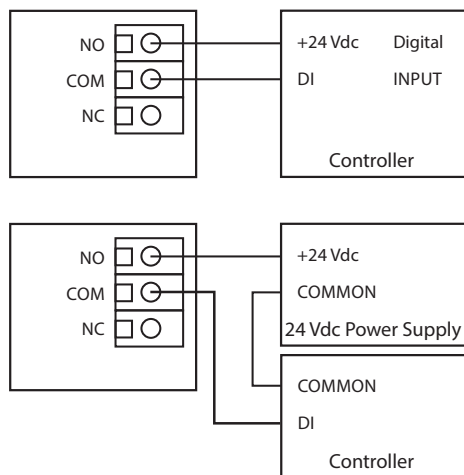

Figure 9
- The setpoint differential has 3 jumper selectable settings (Low/Mid/High). Set jumper to desired differential as shown in Figure 9.